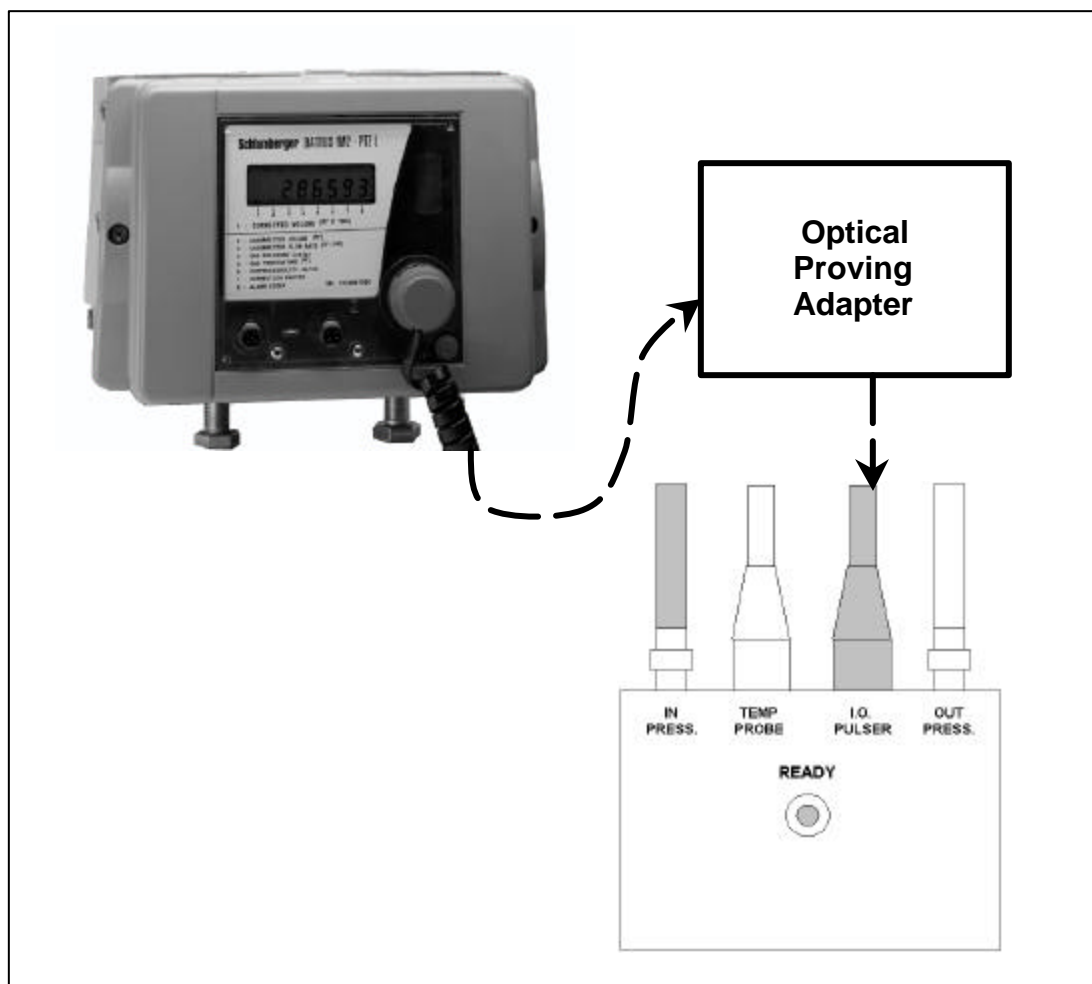

Figure 4.6 Optical Probe Output to Proving System
- 9 Connect the Cannon connector end of the proving cable to the pulse input connection box on the proving system (see Figure 4.6).